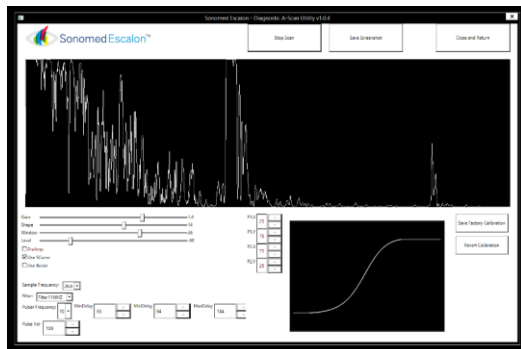

Fig. 12 Calibration Screen Window
- ⑧ **Close and Return:** Upon completing examination and saving a record of the test, select the 'Close and Return' button to return to the VuMax HD Patient Database screen.
- ⑨ **Calibration:** Clicking on the Sonomed Escalon logo while having the control key pressed, it will pop up the S curve calibration as in Fig.12.